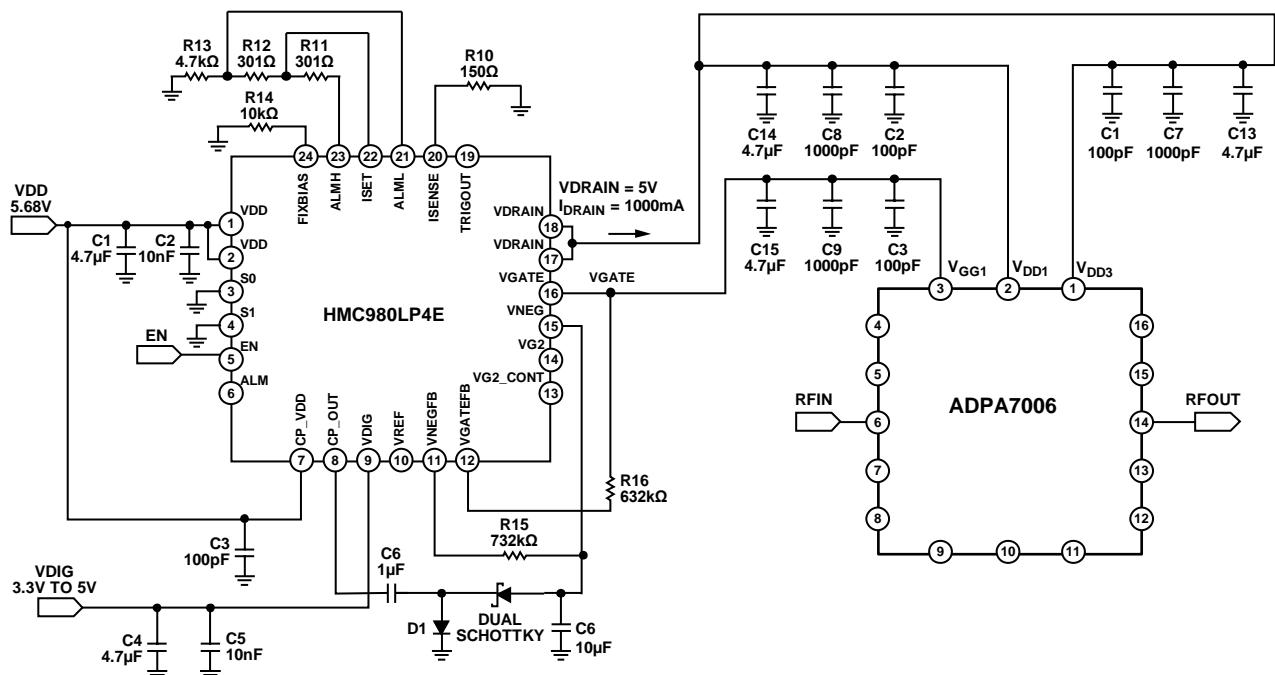
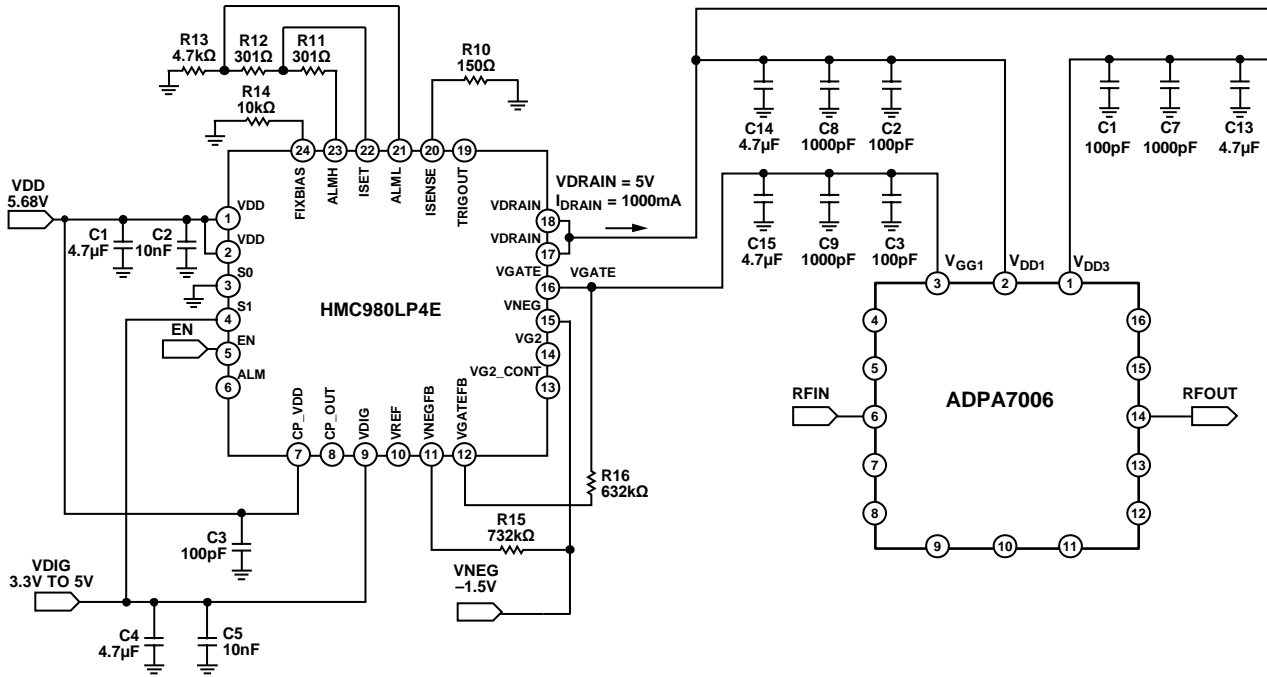

Figure 55. Application Circuit Using the **HMC980LP4E** with the **ADPA7006**
Figure 56. Application Circuit Using the HMC980LP4E with the ADPA7006 as an External Negative Voltage Source
When using an external negative supply for VNEG, refer to the schematic in Figure 56.
When using the ADPA7006 to control the **HMC980LP4E**, the minimum voltages for the VNEG and VGATE pins of the **HMC980LP4E** must be set to  $-1.5 \text{ V}$  to keep these voltages within the absolute maximum ratings limit for the ADPA7006  $V_{GG1}$  pin. To set the minimum voltages, set the R15 and R16 resistors to the values shown in Figure 55 and Figure 56. Refer to the [AN-1363 Application Note, Meeting Biasing Requirements of Externally Biased RF/Microwave Amplifiers with Active Bias Controllers](#), for more information and calculations for R15 and R16.
1. Set VDIG, the voltage supply input (Pin 9) for the HMC980LP4E digital circuit (see Figure 56), to 3.3 V.
3. Connect S1, the digital control pin (Pin 4) that sets the internal field effect transistor (FET) and the internal HMC980LP4E resistor ( $R_{DS\_ON}$ ) resistance (see Figure 56), to VDIG (3.3 V).